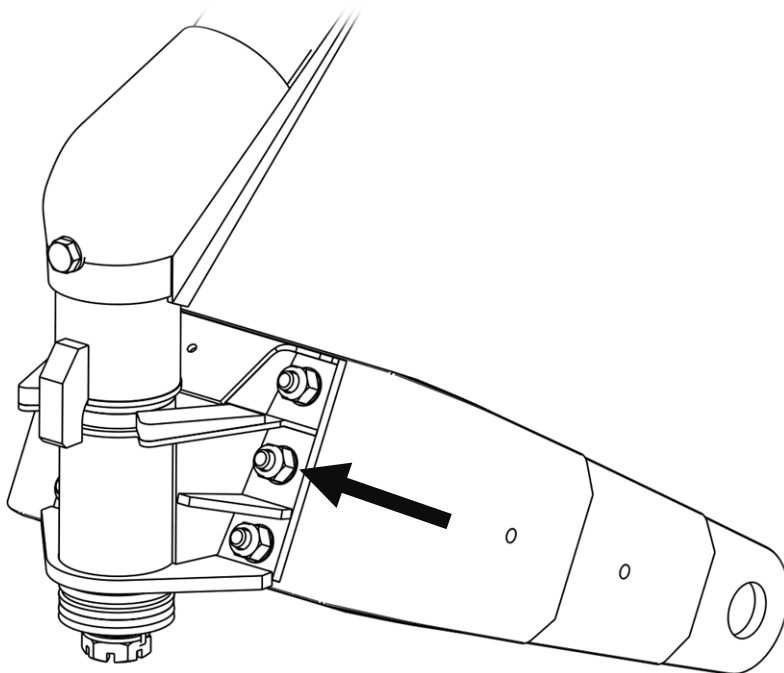

Fig. 1: Front landing leg
- 3) Check all 6 bolts on the nose leg fork (see Fig. 1). Check especially:
- 3) Check all 6 bolts on the nose leg fork (see Fig. 1).